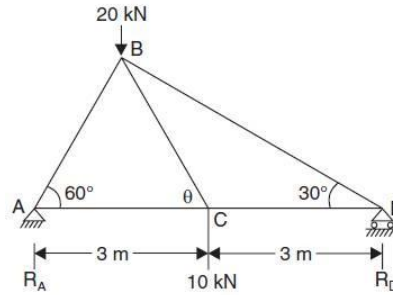

fig.31
5. Determine the forces in all the members of the truss shown in Fig.31